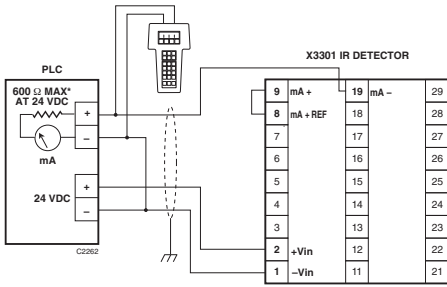
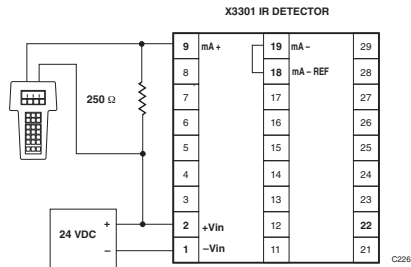

Figure 1—X3301 Detector Wired for Non-Isolated 0 to 20 mA Current Output (Sourcing)
Figure 5—Wiring the X3301 for Benchtop Testing/Programming Using HART Protocol
*The HART Communicator does not measure loop current directly, but instead reads a voltage signal across a resistance (250 ohms) in the loop. The recommended connection point is across the input impedance of the signal receiver (PLC), which is a nominal 250 ohms. See Figures 1 to 4. If testing/programming on a bench, a 250 ohm load resistor must be used. See Figure 5.*